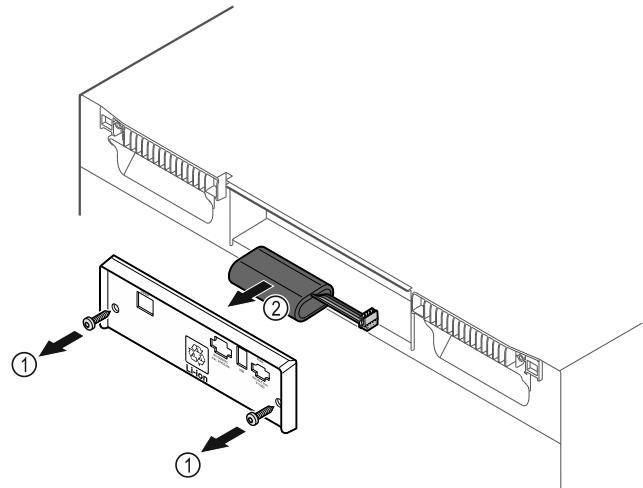

Fig. 202
- Unscrew screws and remove cover from the back of the appliance Fig. 202 (1).
- Disconnect and remove battery Fig. 202 (2).